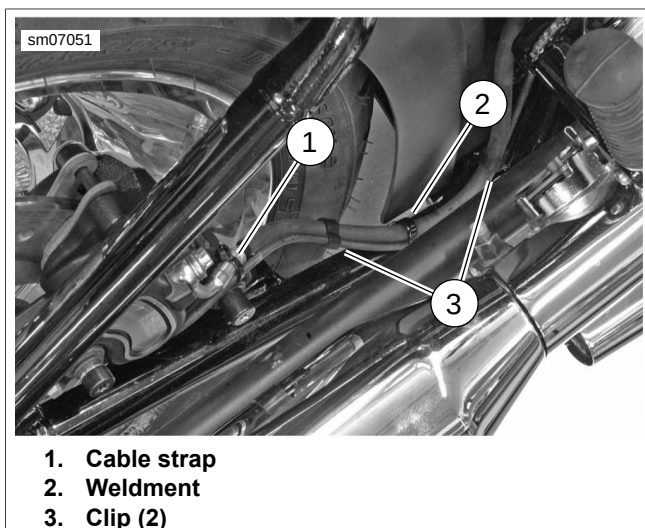

Figure C-13. WSS cable Routing
4. See Figure C-13. Remove cable strap (1) and both clips (3).
2. See Figure C-13. Install cable strap (1) and both clips (3).